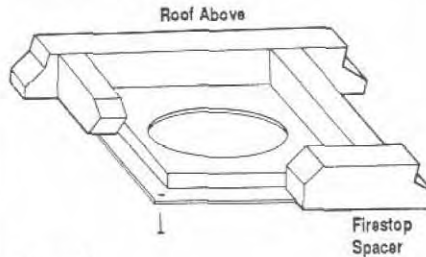

Figure 23
**Step 3.** Position appropriate firestop spacer at ceiling and nail temporarily with two (2) 8d nails. Use flat firestop spacer, Model 8FS\* for TF8 system and Model 10FS\* for the TF10 system, if chimney penetrates ceiling vertically. If chimney penetrates ceiling at 30° angle (offset chimney), use 30° firestop spacer, Model 8FS30\* for TF8 and Model 10FS30\* for TF10 system. Use one nail on opposite sides to hold firestop spacer in position. Nail permanently, using at least two (2) more 8d nails, after chimney sections have been assembled through the firestop spacer and after any necessary adjustments have been made. Firestop spacer must be secured by at least four (4) 8d nails when completely installed.
**Note:** If there is a room above ceiling level, firestop spacer must be installed on the bottom side of the ceiling. If an attic is above ceiling level, firestop spacer must be installed on top side of ceiling joist (Figures 23 and 24).
3. Use Elevation Chart as job estimator only. Add necessary firestop spacers and stabilizers as required. Firestop spacers must be used as shown in Figures 23 and 24 and stabilizers as shown in Figure 28.